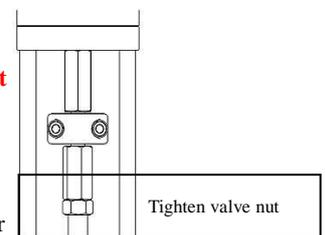

Figure 3
- ⚠ **Fasten the Valve Connector Nut with wrench and tighten the valve nut toward the Valve Connector Nut. (Figure 3).**